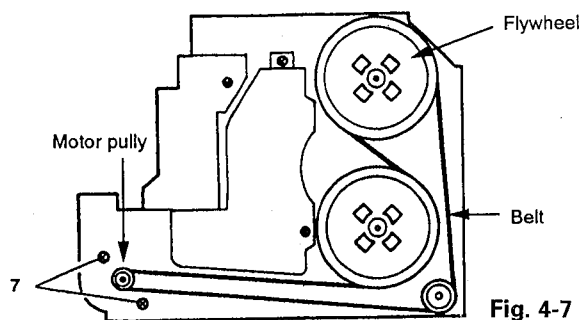

Fig. 4-7
■ Motor assembly and Belt (Fig. 4-7)
1. Place the cassette mechanism assembly upside down and hold the belt by a protrusion of the chassis to prevent it from getting soiled with oil, etc., and then remove two screws (7) retaining the motor assembly.
2. When re-engaging the belt for replacement, etc., make sure to engage it with the flywheels and the pulleys as shown in Fig. 4-7.